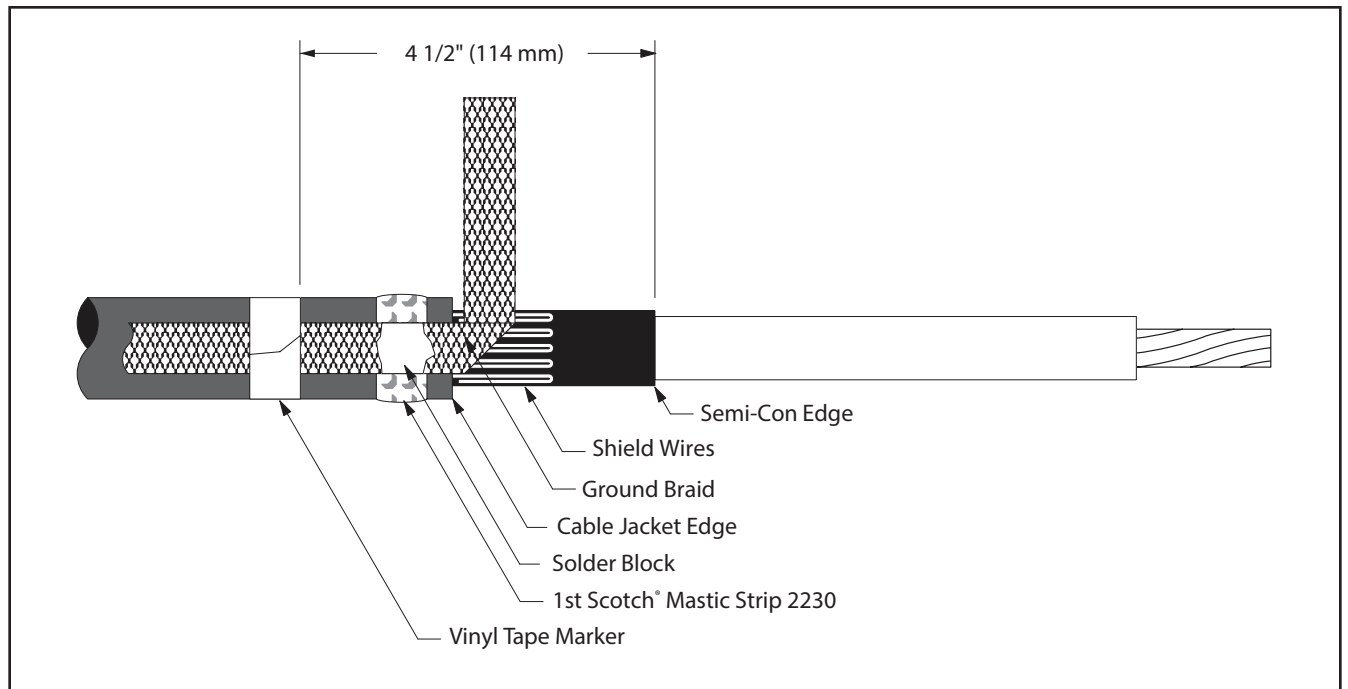

Figure 10
8.2 Position pre-formed ground braid with short tail over wire shield directly adjacent to cable jacket cut edge. Position long tail of ground braid, extending over cable jacket with solder block over mastic strip (*Figure 10*). Secure ground braid to cable jacket 4 1/2" (114 mm) from cable semi-con edge using vinyl tape (*Figure 10*).